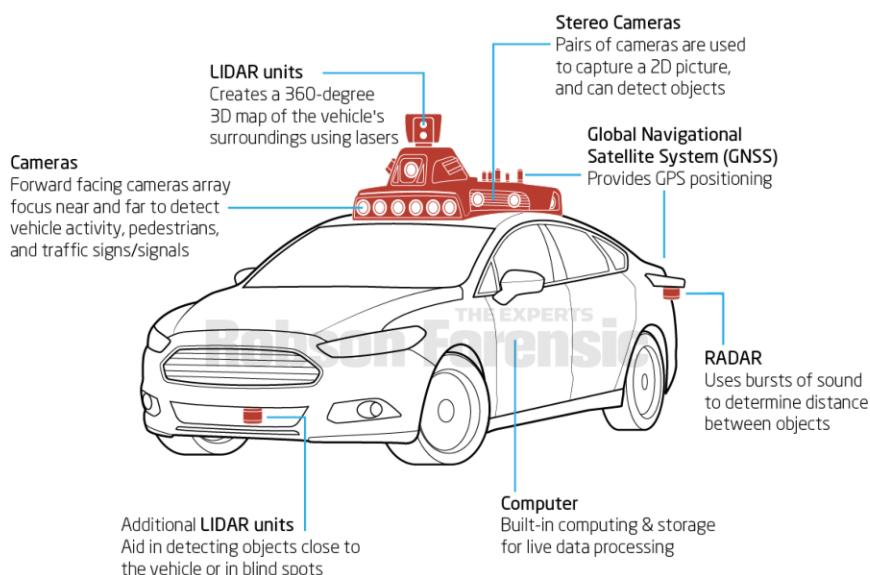

Figure 1. Basic components of driverless car (Leiss, 2023).
The concept of a driverless car (DC) refers to a vehicle, capable of navigating on an open road from point A to point B and requiring minimal input from a human driver or functioning entirely without one (Leiss, 2023; Bathla et al., 2022). DCs gather information from a variety of environmental recognition sensors and cameras such as laser, ultrasound, radar, and LIDAR. These passive systems as shown in Figure 1 allow for distance measurement and the processing of other information related to the vehicle's surroundings, as well as communication with infrastructure and other vehicles (Leiss, 2023). The collected data is processed by computer and used to control the engine acceleration, brakes, and steering, or to intervene in these systems as well as to locate paths, obstacles, and pertinent signage. This mimics the complex behaviour that human operators perform when they scan the path and car while driving. Some recent advancements in this field include the patent of traffic light interpretation by Google and Tesla's latest autonomous vehicle, which modifies its speed according to street signs. (Parekh et al., 2022).